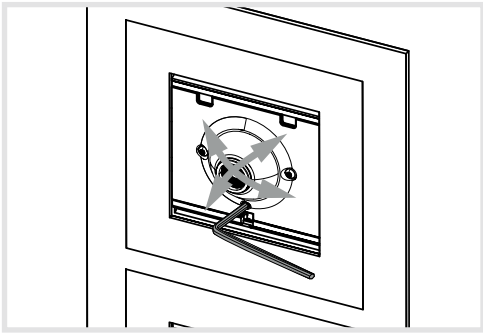

Figure 11: Camera alignment video module
(15) Dismantling opening
- Loosen the locating screw (2) for the camera with the 1.5 mm Allen key supplied (Figure 11 or 12).